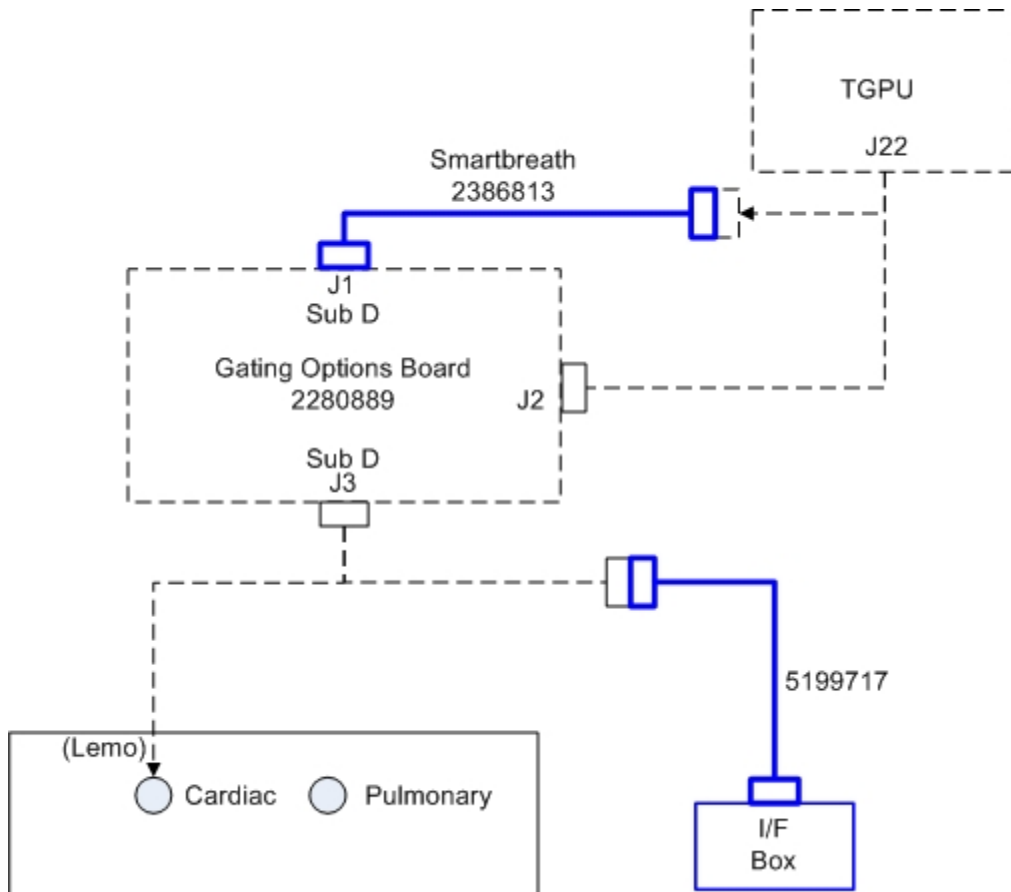

FIGURE 4-1: CONNECTIONS FOR CT SYSTEMS WITH A TGPU
1. Attach cables 2386813 and 5199717 according to Figure 4-1 and 4-3.